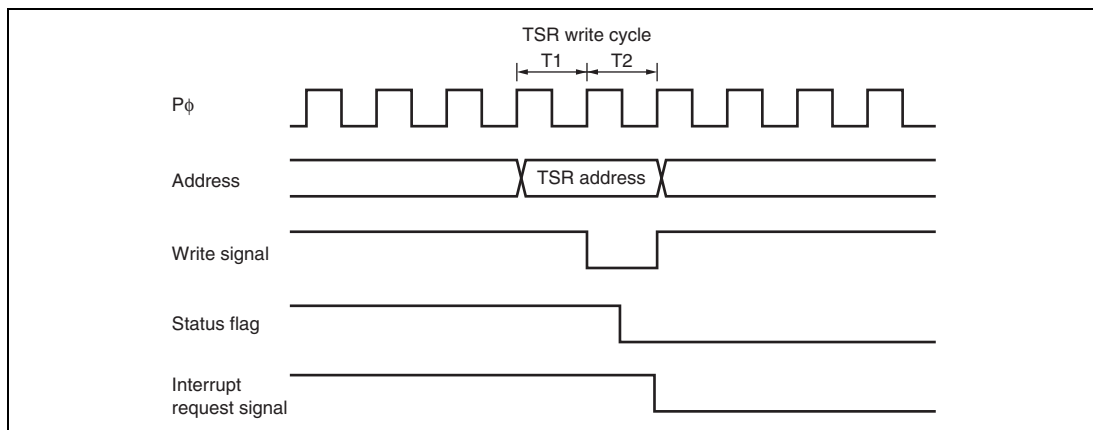
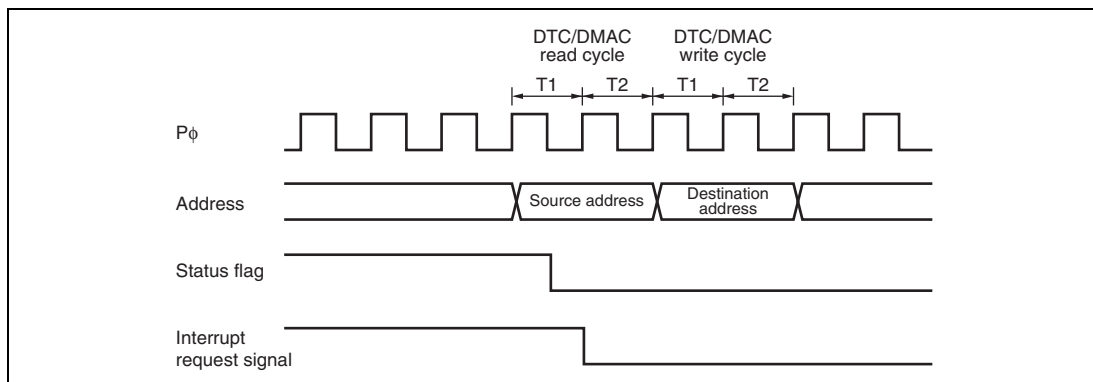

**Figure 11.68 Timing for Status Flag Clearing by CPU**
**Figure 11.69 Timing for Status Flag Clearing by DTC/DMAC Activation**
**Status Flag Clearing Timing:** After a status flag is read as 1 by the CPU, it is cleared by writing 0 to it. When the DTC/DMAC is activated, the flag is cleared automatically. Figure 11.68 shows the timing for status flag clearing by the CPU, and figure 11.69 shows the timing for status flag clearing by the DTC/DMAC.